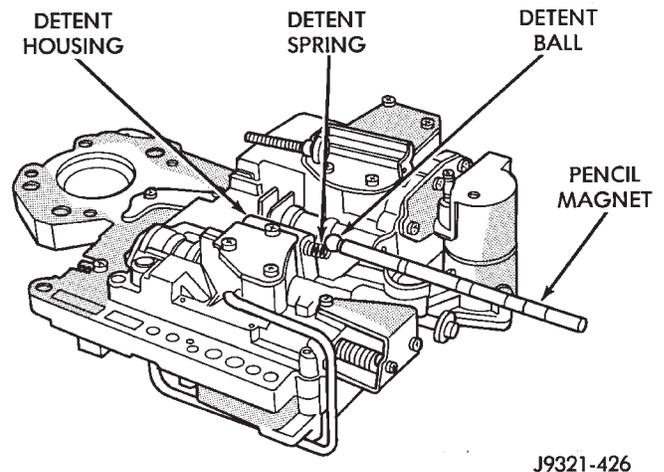

Fig. 75 Detent Ball And Spring
(18) Position pencil magnet next to detent housing to catch detent ball and spring. Then carefully remove Retainer Tool 6583 and remove detent ball and spring (Fig. 75).